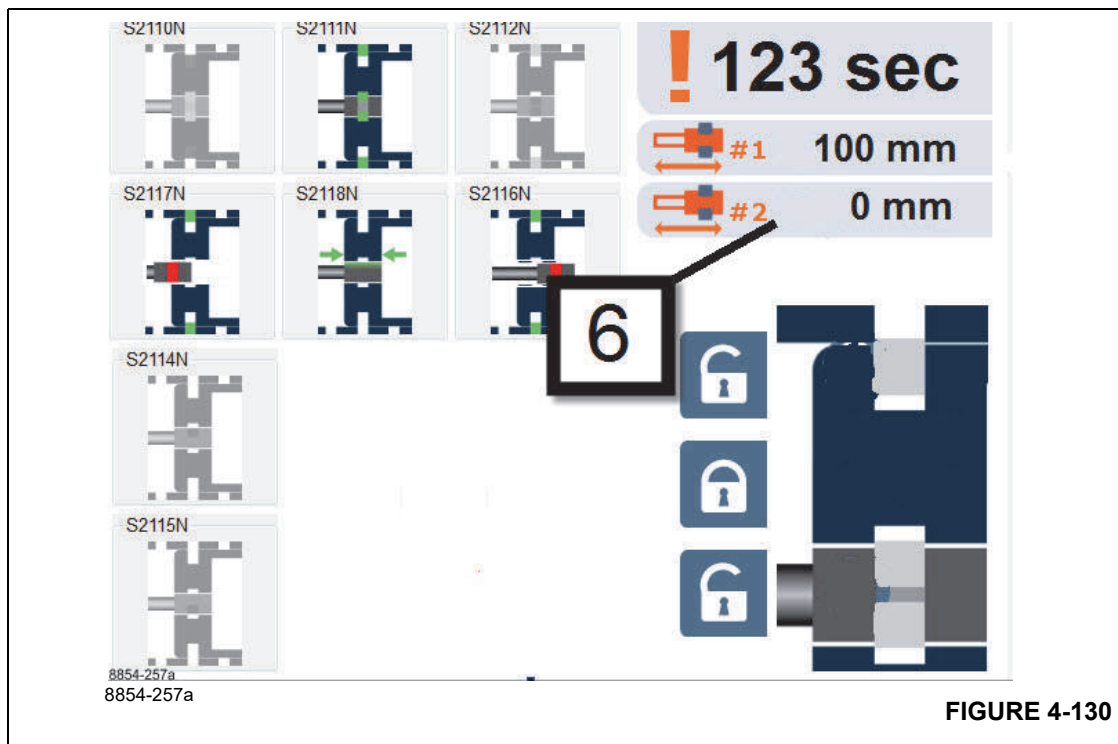

FIGURE 4-130
- If the precision length sensor for the tele cylinder does not show a reasonable value, then the second length sensing can be referred to (6, Figure 4-130). This is typically from a length potentiometer from the power cable reel in the boom (it is separate from the precision length sensor).